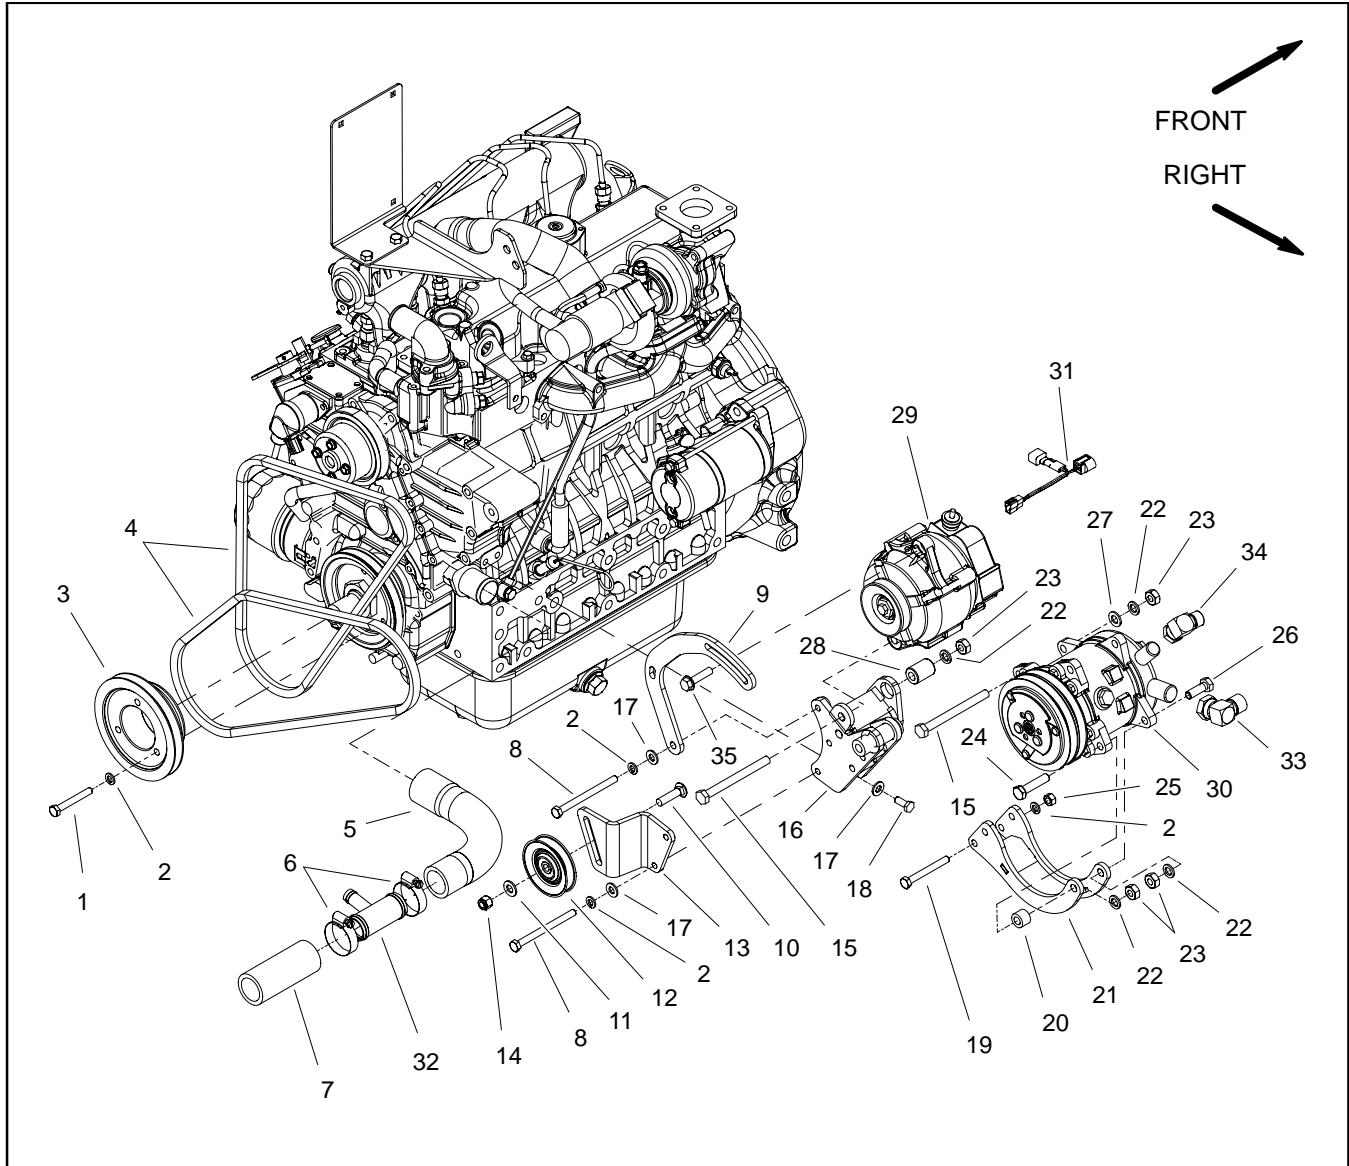

Figure 1
## Removal (Fig. 1)
**Installation (Fig. 1)**
4. Manually rotate the compressor drive shaft at least ten (10) revolutions to make sure that no compressor oil is in the compressor cylinders.